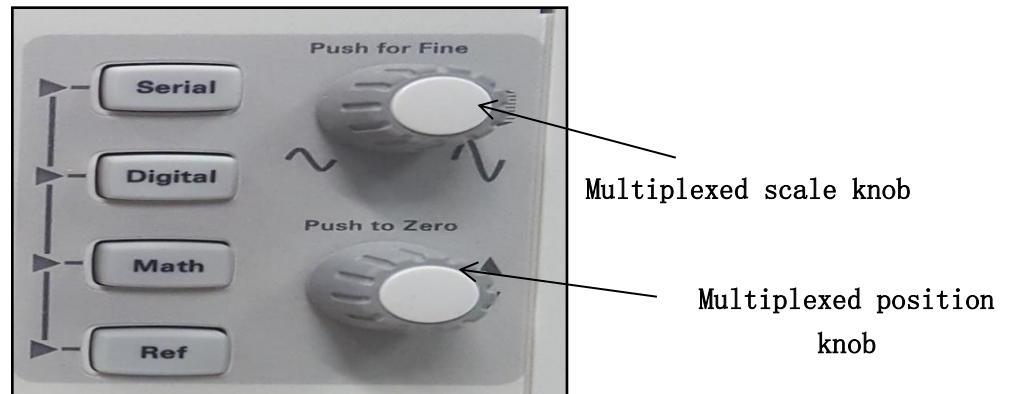

Figure 16: A magnified view of the Additional waveform controls
- Clip the black ground cable of both the probes to each other as shown in Figure 16.